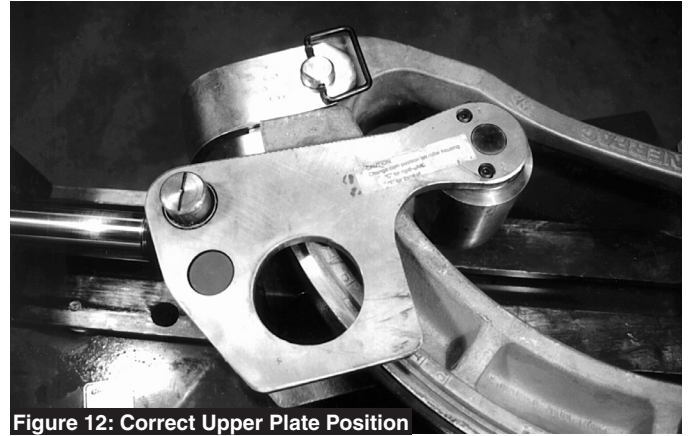

Figure 12: Correct Upper Plate Position
- NOTE:** The roller assembly axle may not engage the collar initially. To ensure proper engagement, move the indicator knob slightly until the axle seats properly. Figure 12.